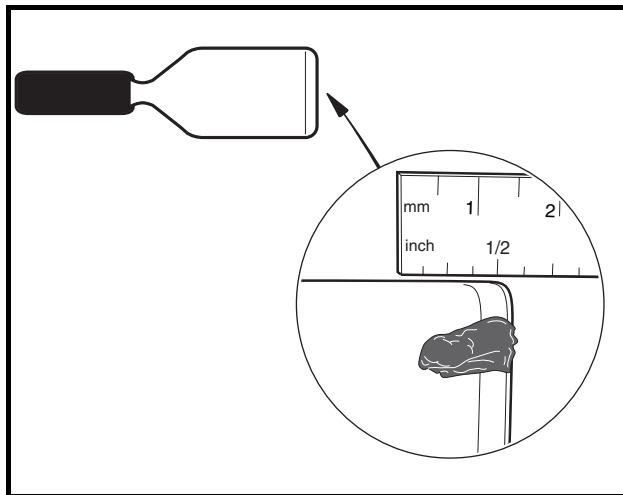

Figure 27-20 Grease on Putty Knife
- 2.1. Squeeze approximately 1/2 inch (1.3 cm) of moly-teflon lubricant (CCI P/N 102243403) from tube onto a putty knife as shown (**Figure 27-20, Page 27-13**).